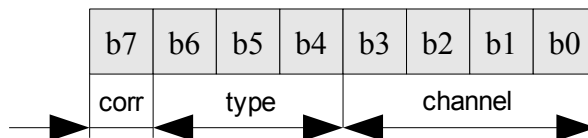

Figure 5: The structure of the returned sensor property
This function queries the types of the environment sensors, that are available in the whole device with the unique ID *devNumber*. The device can contain up to 24 environment sensors. The returned value has got a length of 1 byte. The mapping of this byte represents the Figure 5:
* The bit number is equal the channel number. So bit 0 (b0 on the Figure 5) shows belonging to channel 0, bit 1: to channel 1 and so on.